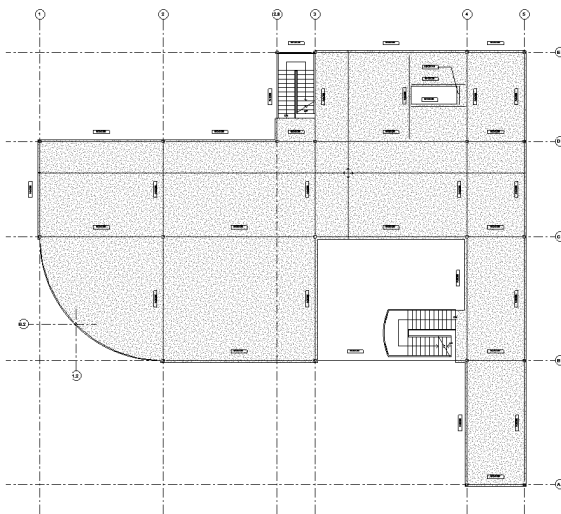

FIGURE 7-4.3 Level 2 span direction tag placed
16. **Click** anywhere within the middle of the floor (Figure 7-4.3).